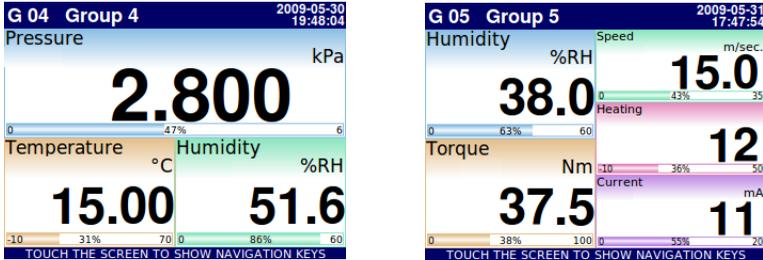

Fig. 6.4. Examples of Numerical Values presentation mode
The great deal of screen is being used for channels visualisation. Data can be presented in one of few modes (as numerical values, as charts, as bars and as needles). All channels of current group are simultaneously presented in the same mode. In the current version of software there is no possibility to mix different modes in one view. Figures 6.4 – 6.8 show examples of different views. The switching between visualisation modes can be done invoking bottom navigation bar and pressing buttons **[MODE↑]** or **[MODE↓]**, (see paragraph: **Navigation bar**)
- as numerical values Fig. 6.4